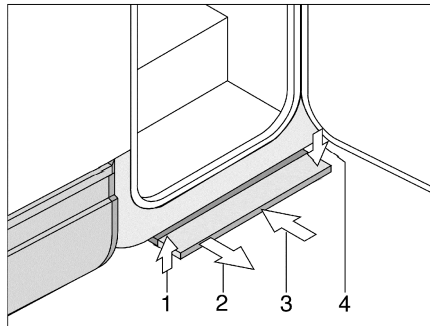

Fig. 6 Mechanically operated entrance step
- Pull the entrance step forwards (Fig. 6,2) until it latches into place.
- Slightly lift the entrance step (Fig. 6,1).
- Push the entrance step as far as it will go under the base of the vehicle (Fig. 6,3). Ensure that the entrance step latches in place (Fig. 6,4).